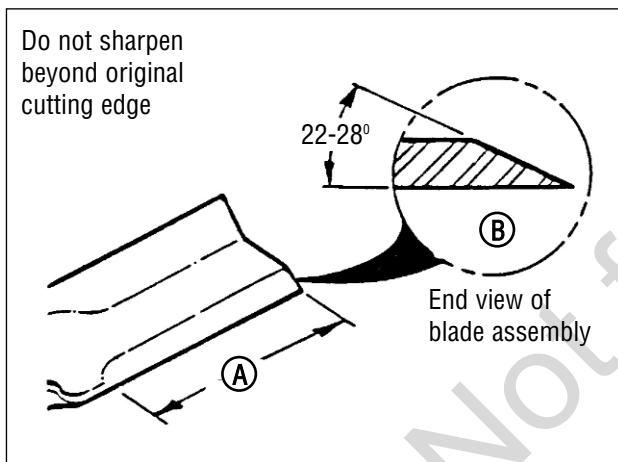

Figure 22: Sharpening the mower blade
- Sharpen the blade on a grinding wheel at an angle of 22 to 28 degrees (B, Figure 22). DO NOT sharpen the blade beyond the original cutting edge (A).